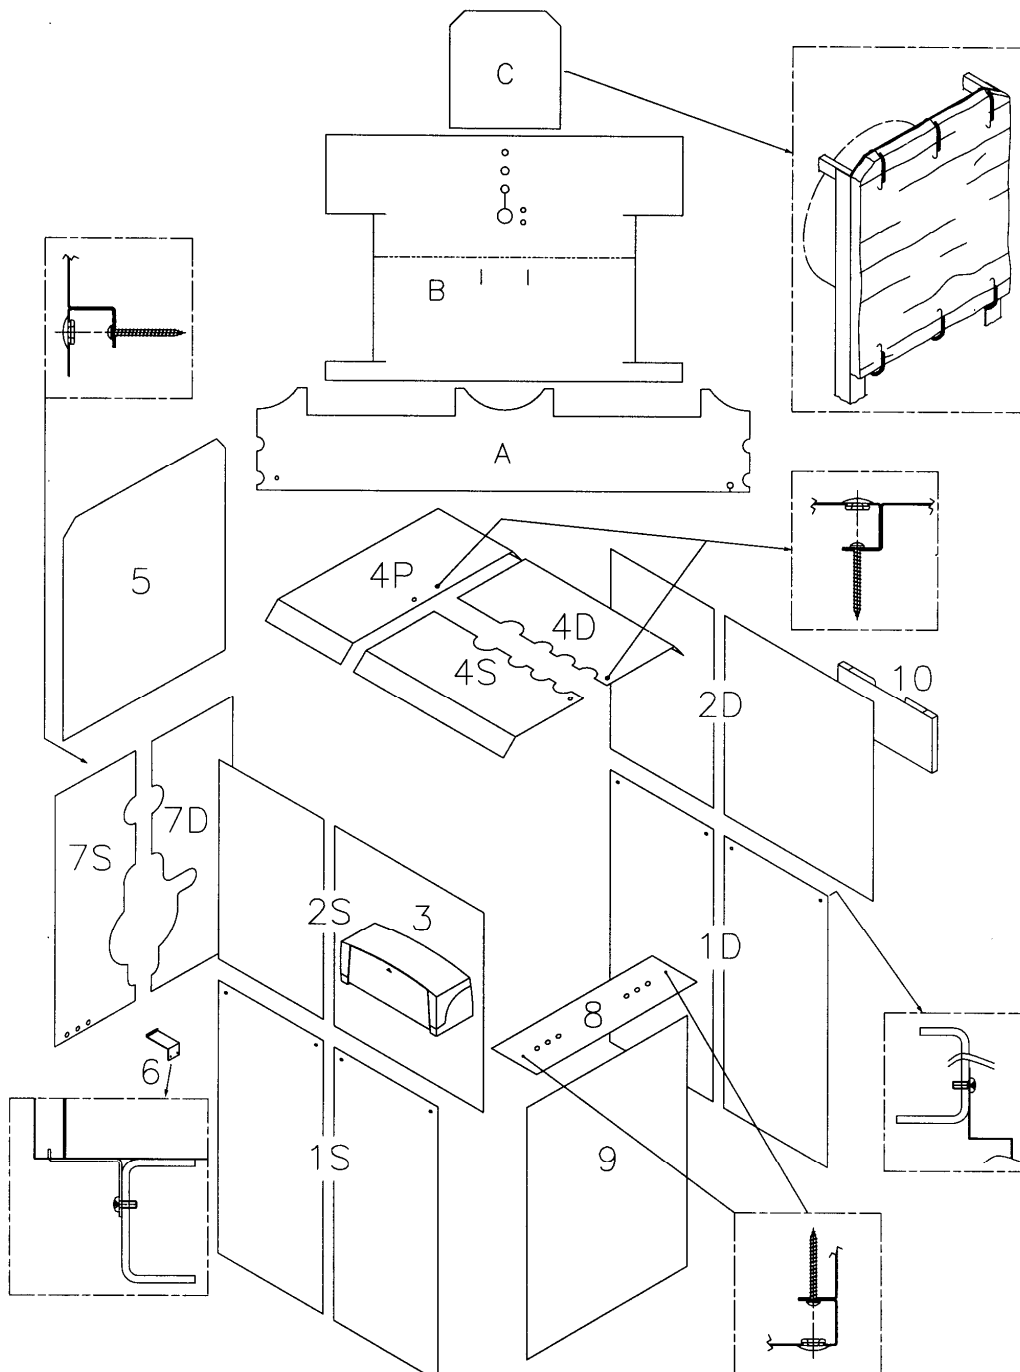

Fig. 6
5.4 BOILER COVERING model. 350 - 860 (Fig. 6)
- Unwind the thermostat capillaries, attach the control panel (3) to the side with a screw, then insert the bulbs into the shaft.
- Mount the panel (5); attach the support bracket (6) to the frame base, position the panel (7D) and then the panel (7S) with fairlead attached to its side panels. Screw on tightly and plug the passage holes with the appropriate caps.
- Attach and screw on the front/central (8) and front/lower (9) panels.
- Finally, screw the document holder (10) on to the opposite side of the control panel.